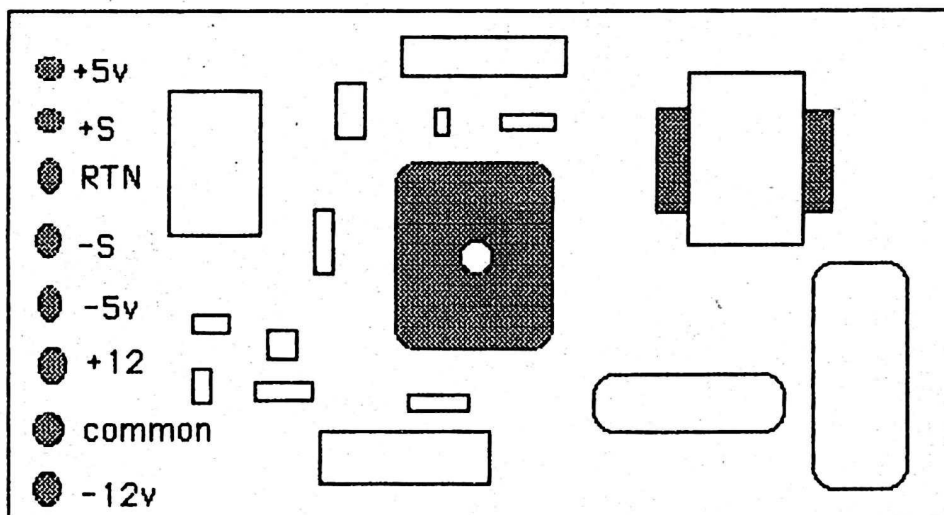

Figure 4-1. Power Supply, Top View
In this troubleshooting procedure, refer to Figure 4-1, Power Supply Top View.
Step 3: Refer to Figure 4-1. Check the power supply for +5v DC at the terminal marked "+5" with a voltmeter. If +5v DC is present, proceed to Step 5. If +5v DC is NOT present, remove connections to the power supply one at a time, to isolate a possible short to one of the internal circuit boards. Each of the following subassemblies have a separate power connector, which is directly connected to the power supply. Disconnect the subassemblies in the following order while monitoring the +5 terminal in order to isolate the short-circuit.
Step 5: If +5 volts DC is present at the "+5" terminal, check for +12 volts DC at the "+12" terminal on the power supply (refer to Figure 4-1). If +12 is not present, monitor the terminal and disconnect the power connectors from the boards in the order outlined in Step 3. The +12 volt level will return when a short is removed. If the short is isolated to a particular P. C. board, refer to the appropriate section to troubleshoot further.